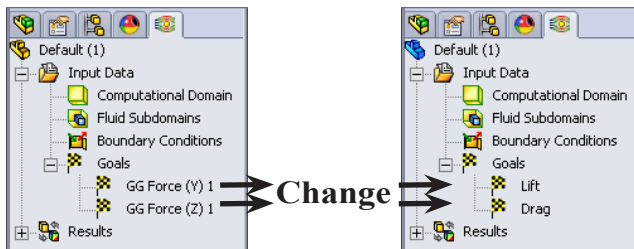

Fig. 15
Step 6. Rename the goals to **Lift** and **Drag**. To rename, click and hold over **Force (Y)** and key-in **Lift**, **Fig. 15**. Rename **Force (Z)** to **Drag**.